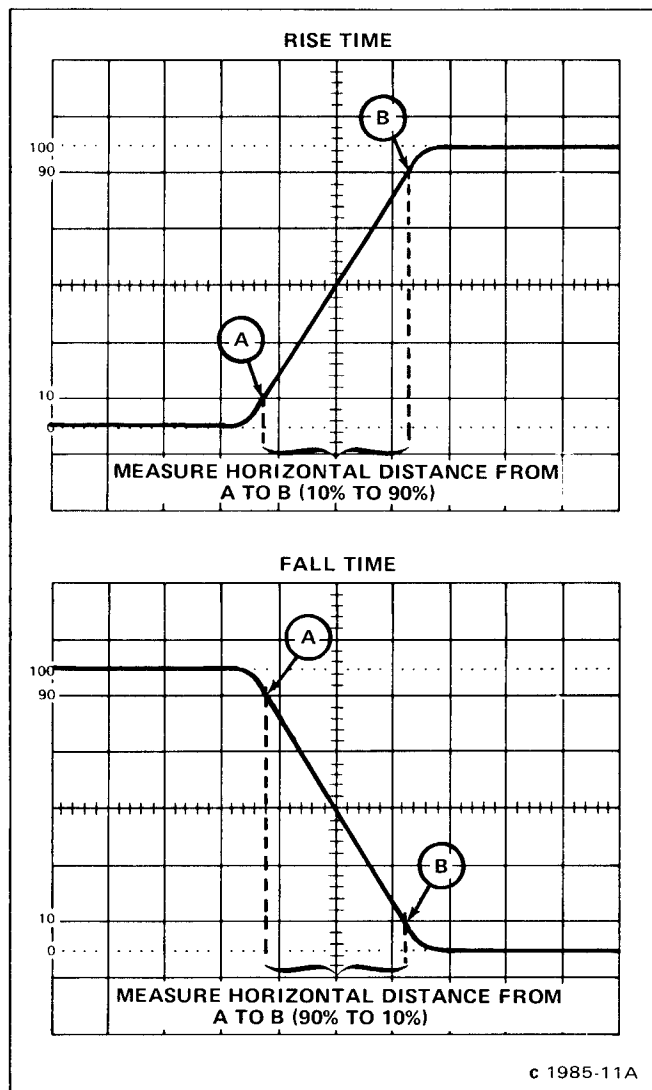

Fig. 2-6. Measuring the rise time and fall time of a displayed waveform.
6. Set the TIME/DIV switch and POSITION control to display the rising or falling portion of the waveform within the center 8 graticule divisions as shown in Figure 2-6 (see General Operating Information in this section for discussion of timing measurement accuracy).
7. Determine rise time or fall time by measuring the horizontal distance in divisions between the point on the rising or falling portion of the waveform that is 10% and the point that is 90% of the total display amplitude (see Fig. 2-6).
Example: Assume that the horizontal distance between the 50% amplitude points is 3 divisions, and the TIME/DIV switch setting is $.1 \mu s$ (see Fig. 2-6).